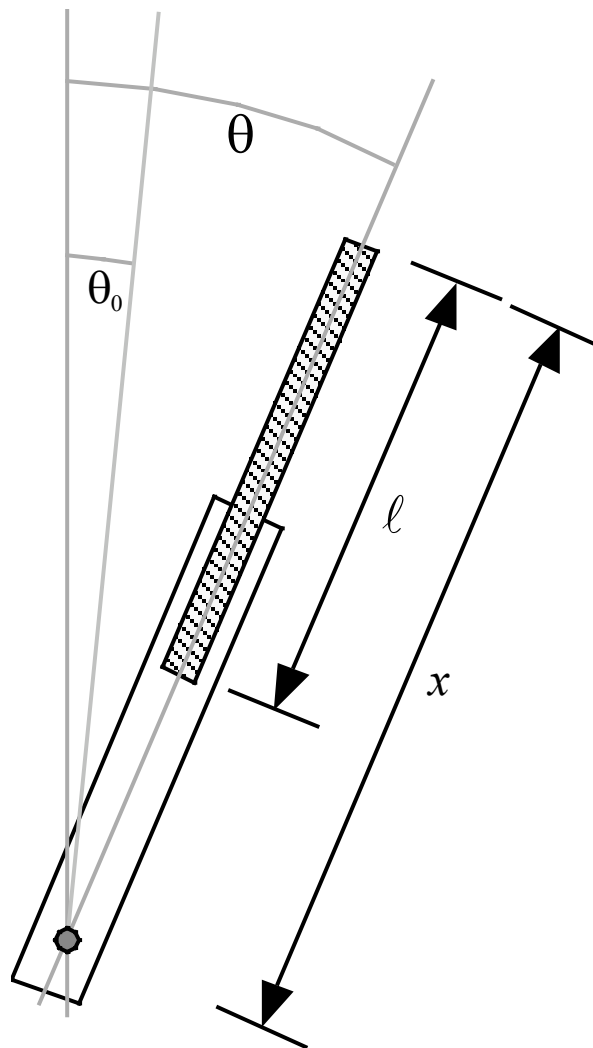

Figure 3: The variables  $\theta$  and  $x$  and the parameters  $\theta_0$  and  $\ell$  are shown here.
4. Write the pendulum equation of motion in the case of a horizontal rotation axis, as a function of the angle  $\theta$  (see figure 3) and of  $x$ ,  $\kappa$ ,  $\theta_0$ ,  $M_1$ ,  $M_2$ , the total moment of inertia  $I$  and the position  $R(x)$  of the center of mass. [1 point]